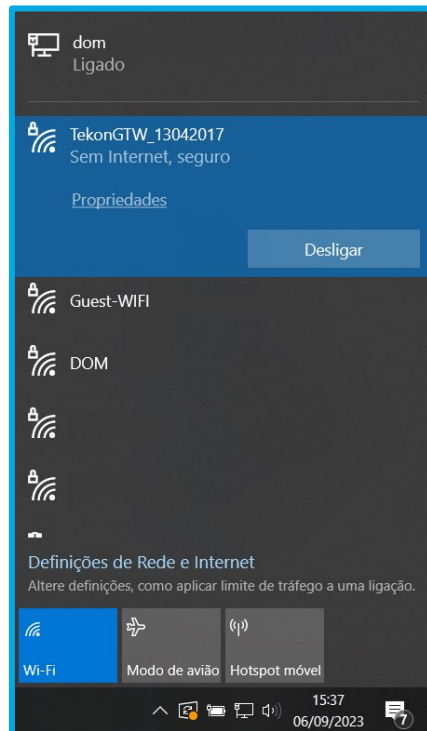

Figure 10 – Universal IoT Gateway Network.
1. **Wi-Fi Connection:** To connect via Wi-Fi, access the network defined on the device's label as Wi-Fi SSID (TekonGTW_XXXXXXXXX, Figure 10) using the corresponding password.